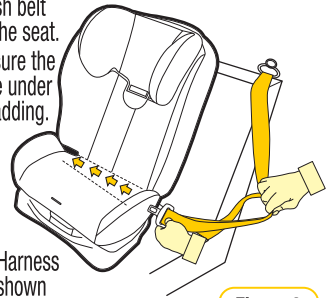

Figure 2
Step 2: Feed adult lap or lap/sash belts through the belt path opening, ensure the seat belt is under the cover & between the layer of foam and the plastic restraint base. (refer Figure 2 & 3)